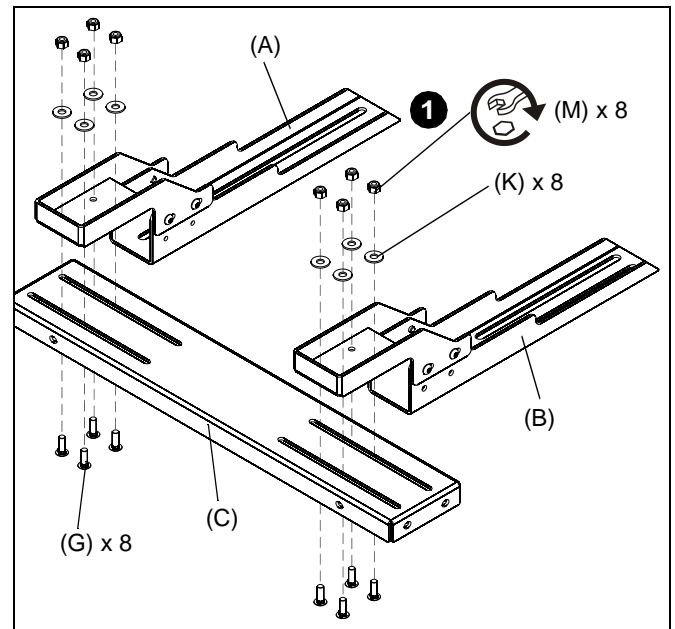

Figure 3
1. Attach left lens support (A) and right lens support (B) to the top front plate (C) using eight 1/4-20 x 3/4" round head carriage bolts (G), eight 1/4" flat washers (K), and eight 1/4-20 nylon locknuts (M). (See Figure 3)